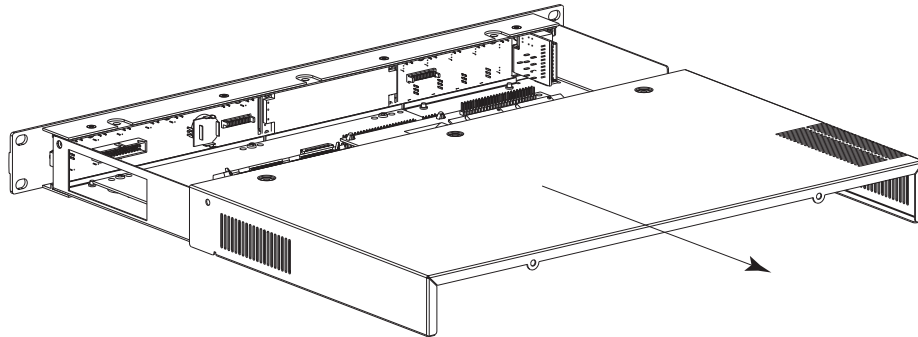

Figure 5 *Removing the top panel*
4. Grasp the front of the PC2R and slide the top panel straight back until it's free from the body of the PC2R (see Figure 5, page 16).